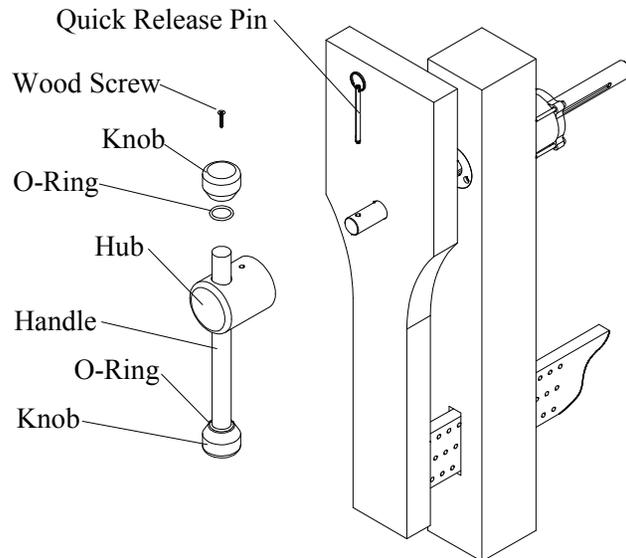

FIG. 5
Step 9: Place the wooden hub on the clamp shaft and visually line up the cross holes. If you are using a metal hand wheel this process is the same. Insert the quick release pin into the cross hole in the hub and make sure it is completely through the clamp shaft and protrudes slightly out the other side of the hub. See Fig. 5.
Step 11: Glue one of the knobs on the handle. If wood shrinkage has made the fit too loose, glue a 3/4" wide strip of paper to the end of the handle, let dry and then glue the knob onto the handle. Sand the parts and apply the finish of your choice. Assemble the handle with O - rings onto the hub as shown in Fig. 5. Drill a 7/64" diameter hole into the end of the free knob and into the handle and fasten with the #8 X 1-1/4" flat head wood screw.